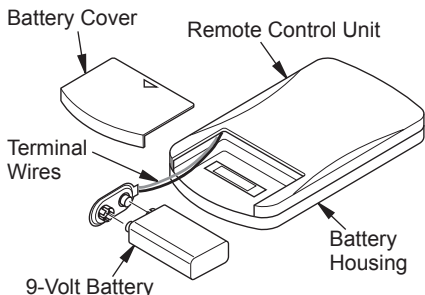

Figure 31 - Installing Battery in Hand-Held Remote Control Unit
7. Connect wires as shown in Figure 31.
1. Remove battery cover on back of remote control unit (see Figure 31, page 21).
3. Replace battery cover onto remote control unit (see Figure 31, page 21).